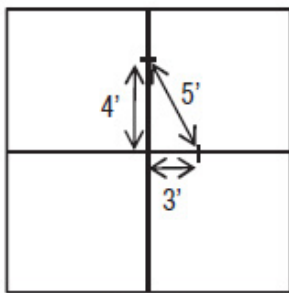

Figure 1
- Square the layout of the room and find the center of one end of the room. Locate the same point at the other end-wall. Snap a chalk line between these points to mark the center line on the floor. Then, measure along this center line to find the middle of the room. At the center point, mark off a line across the room at precise right angles to the first line. This can be accomplished using the 3-4-5 triangle method. Starting from the center point, make a mark measuring 4 feet vertically and 3 feet horizontally. Connect the marks with a diagonal line to complete the triangle. If the diagonal line does not measure exactly 5 feet, then the center crossing lines are not at a true right angle. (See Figure 1)